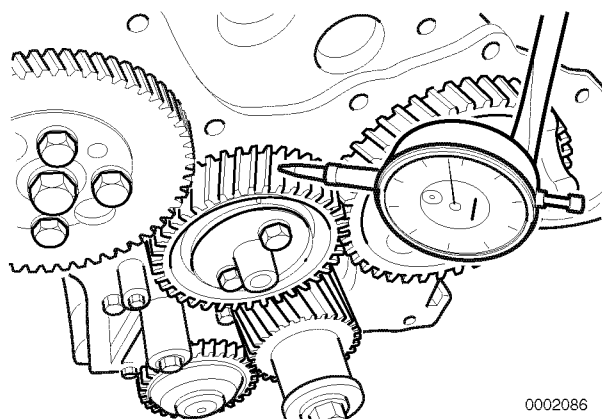

Figure 6-90
1. Install a dial indicator as shown in Figure 6-90.